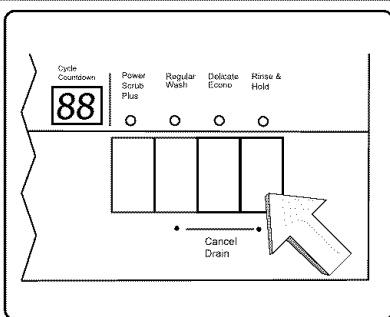

Figure 32/Ilus. 32
1) Press and hold the right-most of the two buttons labelled "Cancel Drain", as shown in Figure 32, then press and hold the "On/Off" button. The LED display will show a number between 0 and 6.